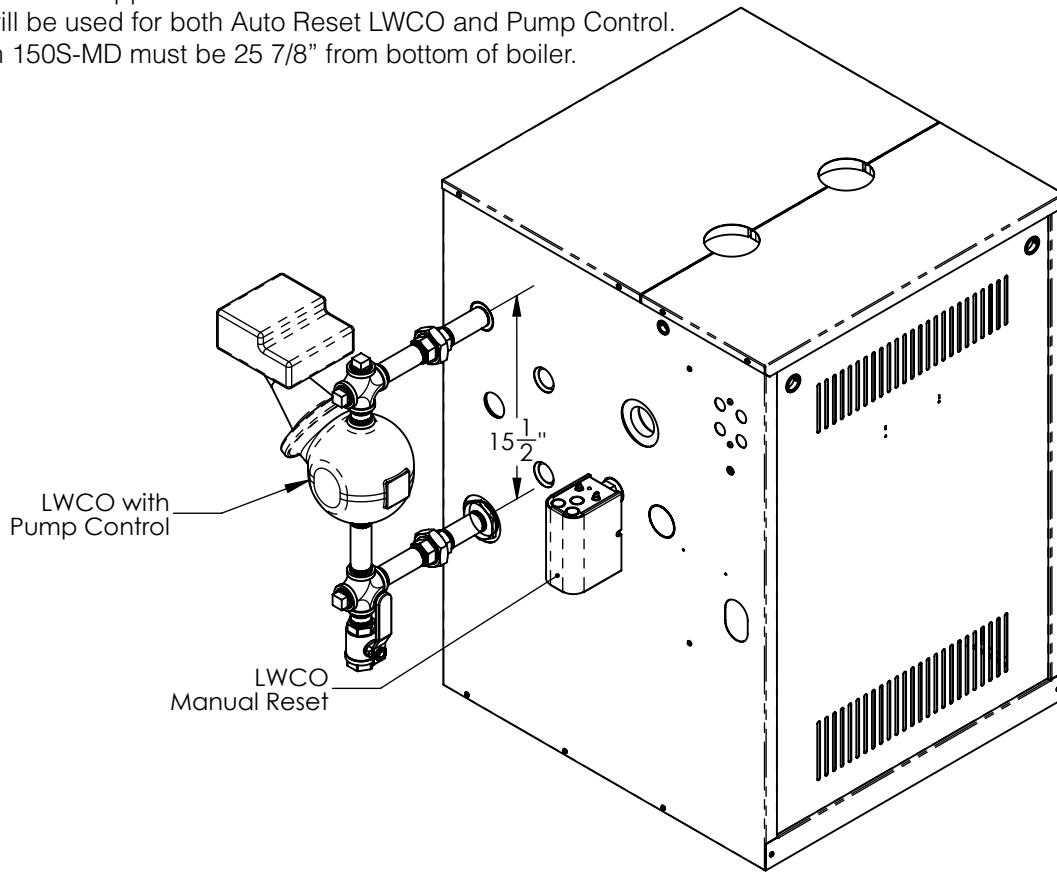

Figure C-1: M&M 150S-MD Water Column Piping
- 150S-MD must be water column mounted on same side as Manual Reset LWCO. See Figure C-1.